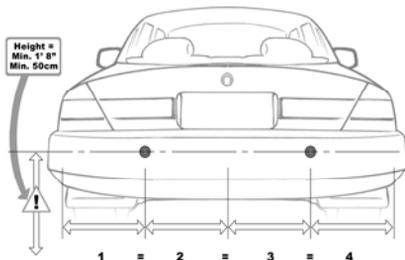
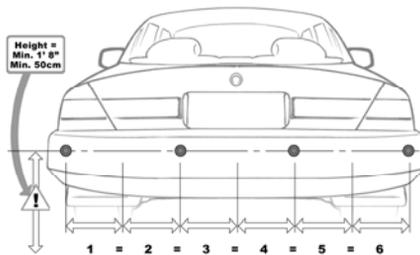

Figure 1 (2 sensors)
Figure 2 (4 Sensors)
- b. Divide the bumper up as shown in Figure 1 for a two sensor install or as shown in Figure 2 for a 4 sensor install.